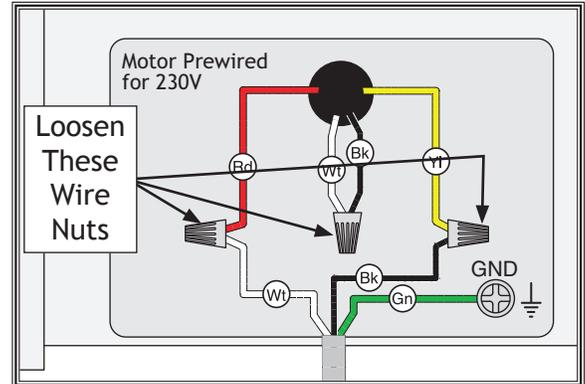

Figure 7. Location of wire nuts to be loosened on motor junction box.
3. Open motor junction box, then loosen three wire nuts indicated in **Figure 7**.